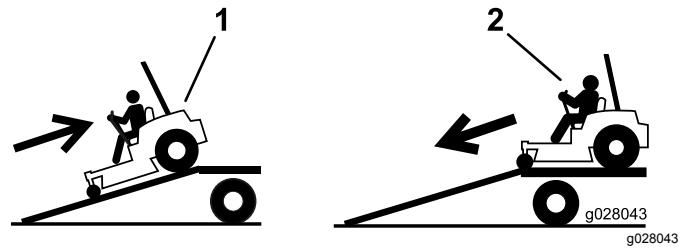

**Figure 42**
5. Use the tie-down loops on the machine to securely fasten it to the trailer or truck with straps, chains, cable, or ropes (Figure 42).